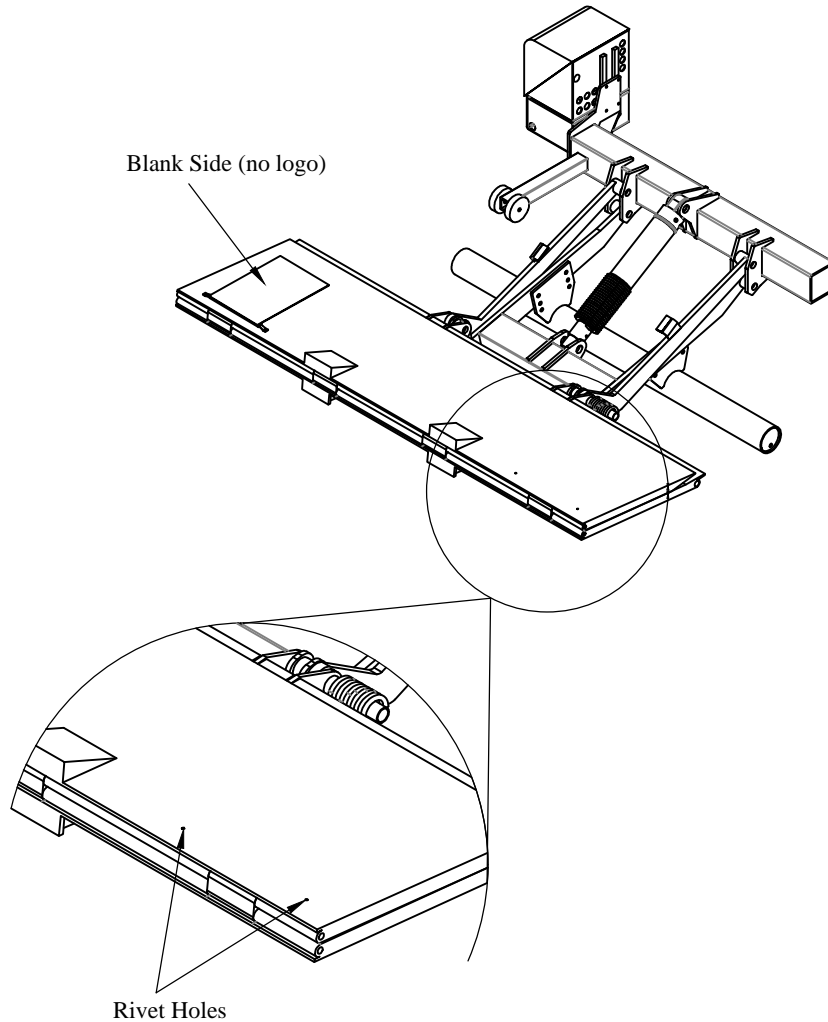

Figure 32: Platform Reflective Flags.
2. **Identify** the four (4) holes on the platform (Figure 32).
Note: Before riveting the flags, make sure they have the Tommy Gate logo facing the platform and the blank side facing up (Figure 32).